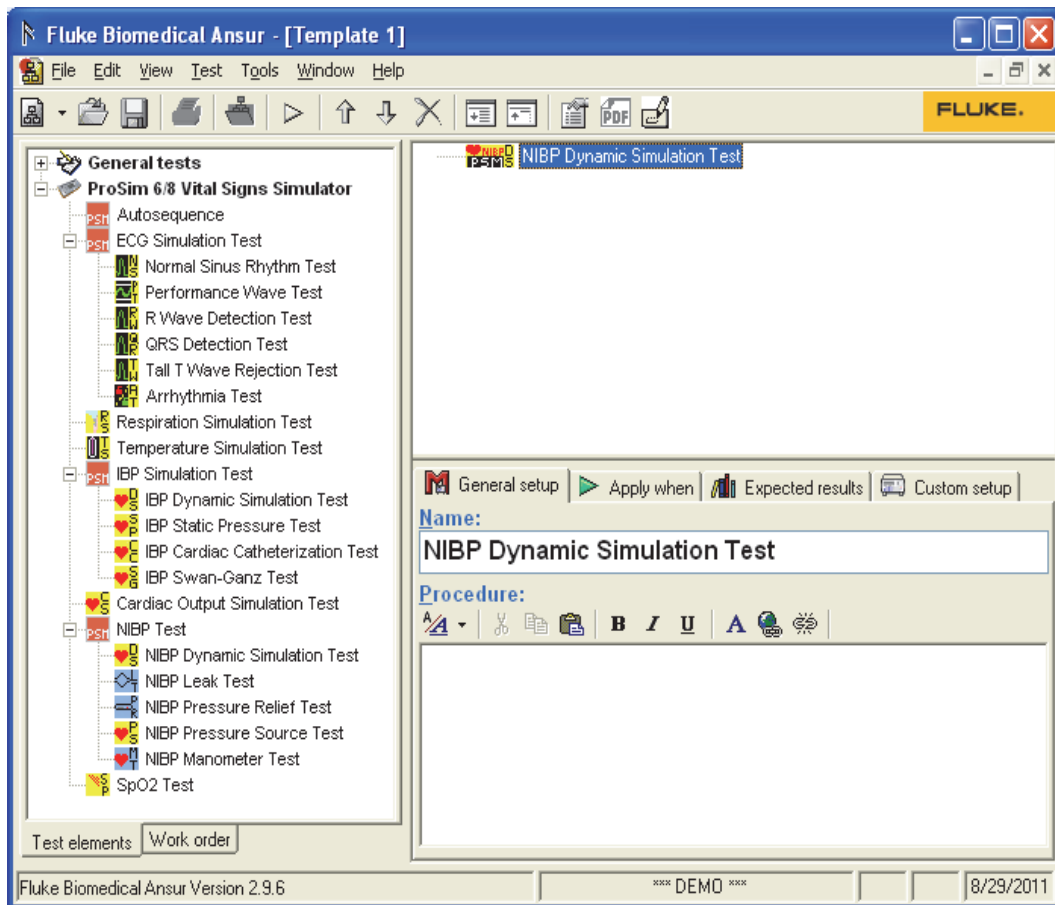

Figure 3-32. Test Template with NIBP Dynamic Test Added
3. Click and drag a test element from the Test Explorer (left pane) to the Test Template window (right pane). The example shown in Figure 3-32, shows the NIBP Dynamic Simulation Test element in the test template.